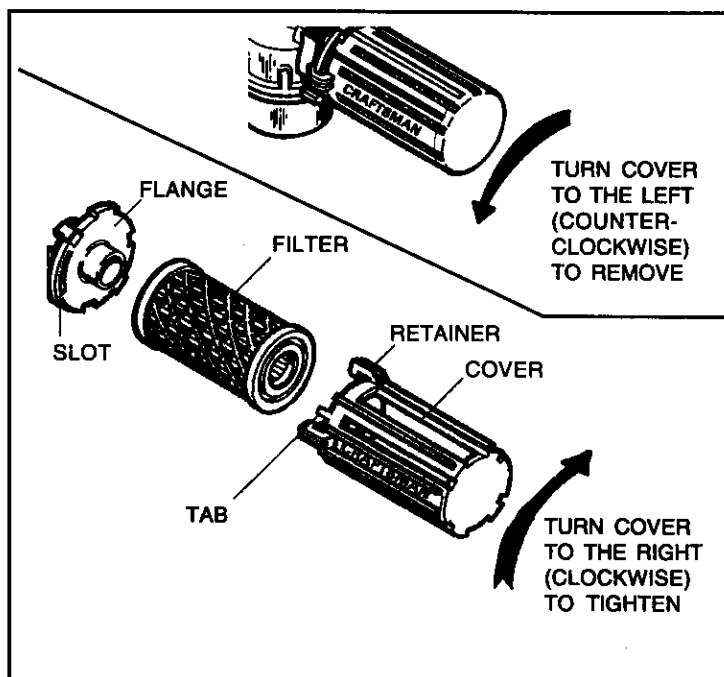

Figure 4
### ③ AIR CLEANER (see Figure 4):